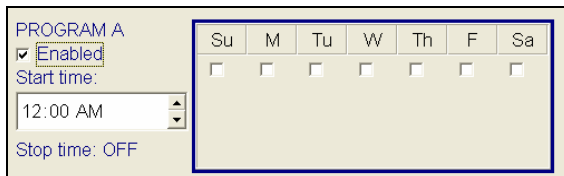

Figure 16.1.8B
- Next check the **Enabled** box for each program that you want to use (Figure 16.1.8B).